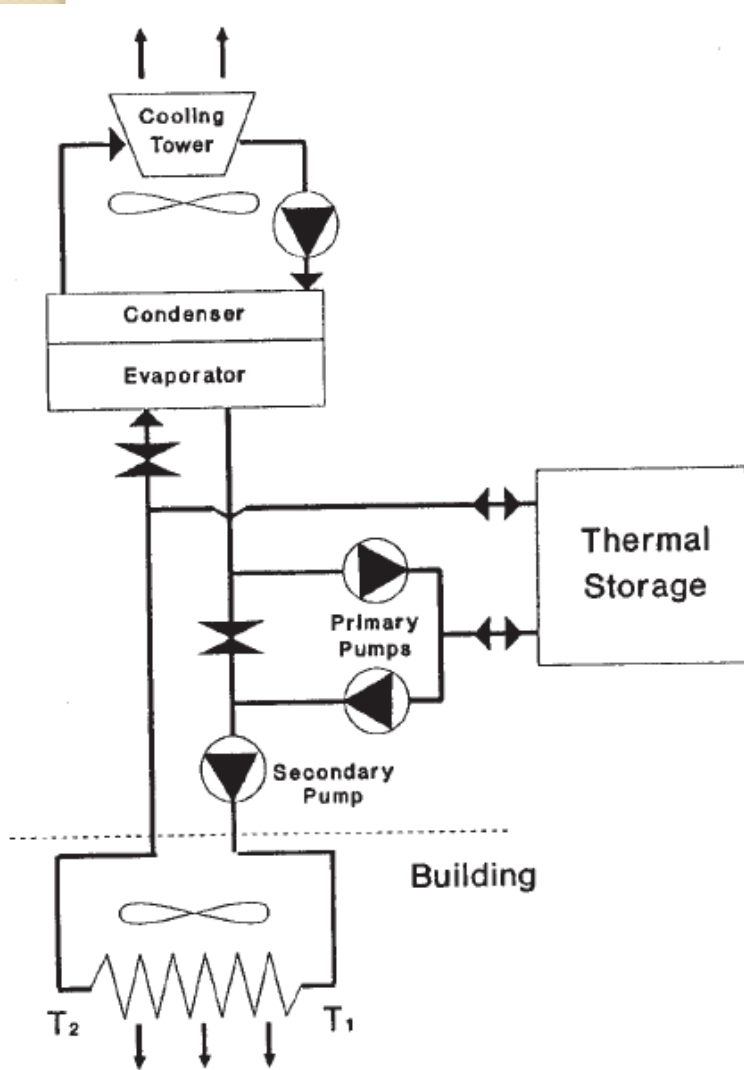
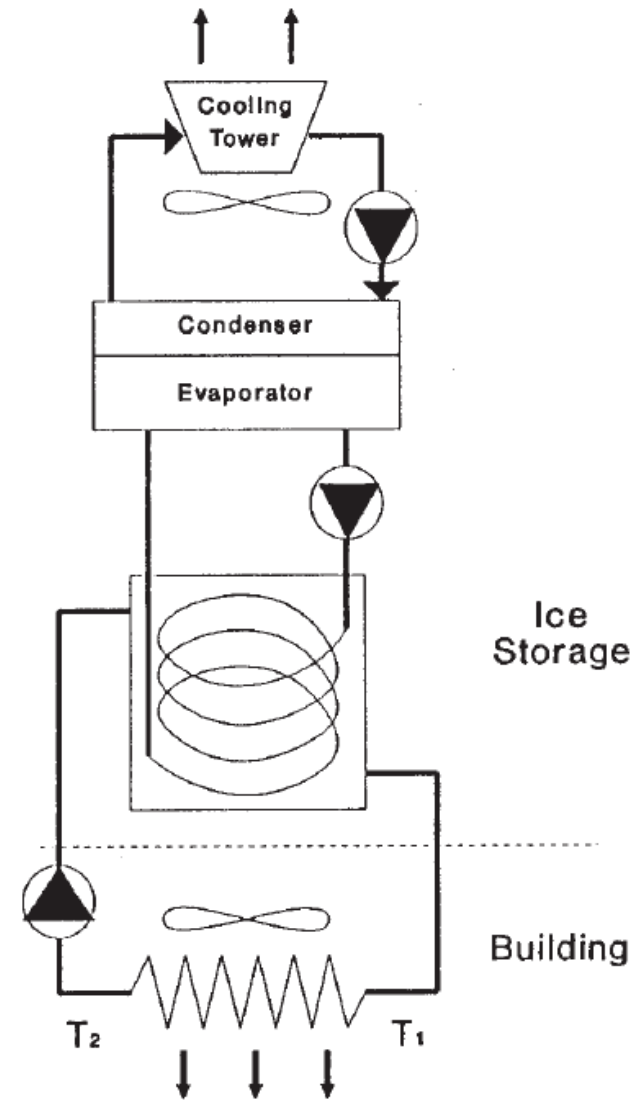

Figure 19.5a Water & eutectic storage system configuration.
Figure 19.5b Ice storage system configuration.
- ❑ Figure 19.5a represents the configuration of the cooling system with either a **water or phase change material** thermal storage system and Figure 19.5b represents a general configuration of a TES utilizing **ice** as the storage medium
- ❑ *During the charging cycle, the **cooling water forms ice** around the **direct expansion coil** as the cold gases pass through it (see Figure 19.5b).*